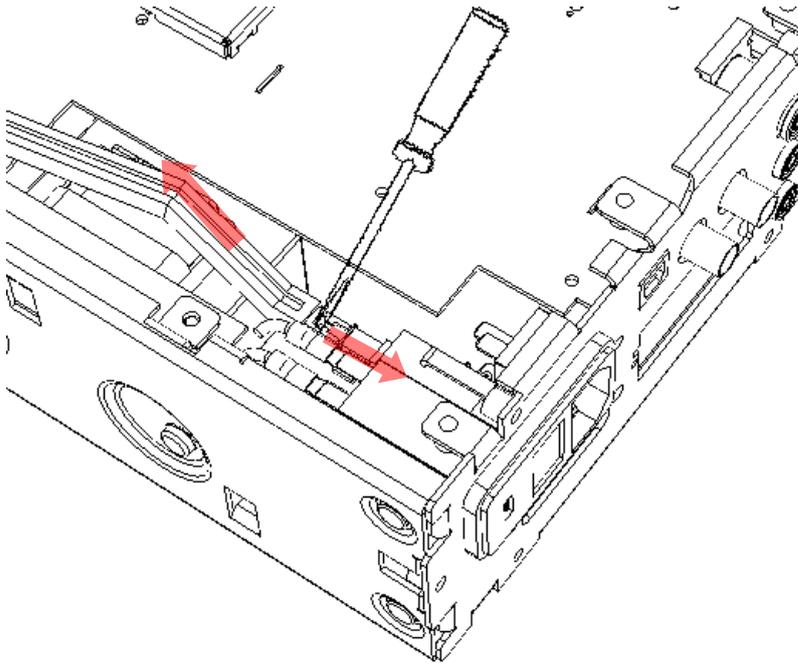

Figure 4-9
- To remove the power switch rod from power entry, turn the multimeter to the bottom. Place the edge of a flat-blade screwdriver in the notch on the pushrod, and twist the driver gently while pulling the rod from the shaft as shown in **Figure 4-9**.